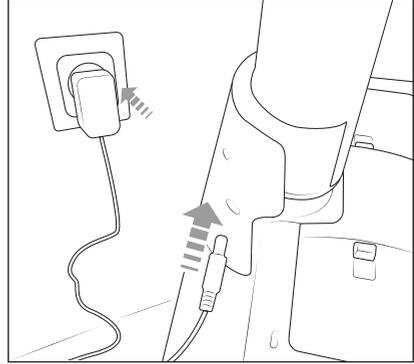

Fig. 3
- 2) Insert the barrel plug **10** of the mains adapter **11** into the charging socket on the left side of the charger **9**. Connect the mains adapter **11** to a power outlet (see Fig. 3).